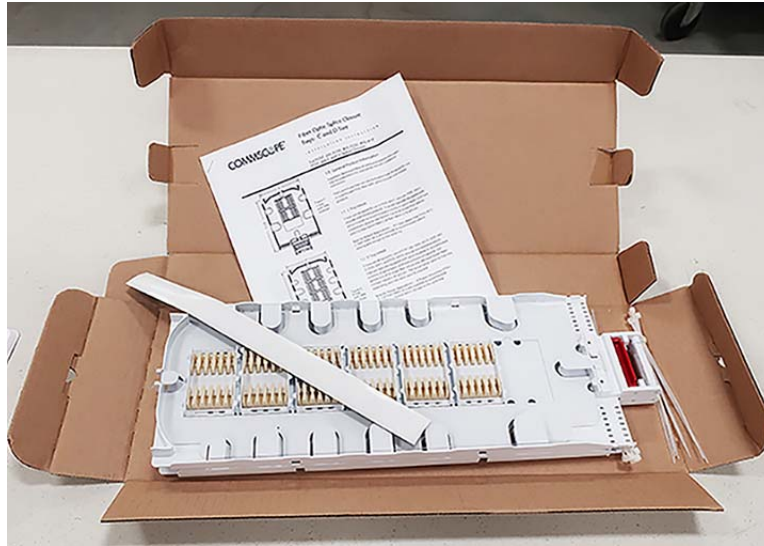

Figure 11. Unpacking the Splice Tray
1. Unpack the splice tray. Refer to Figure 11. There are two per box.